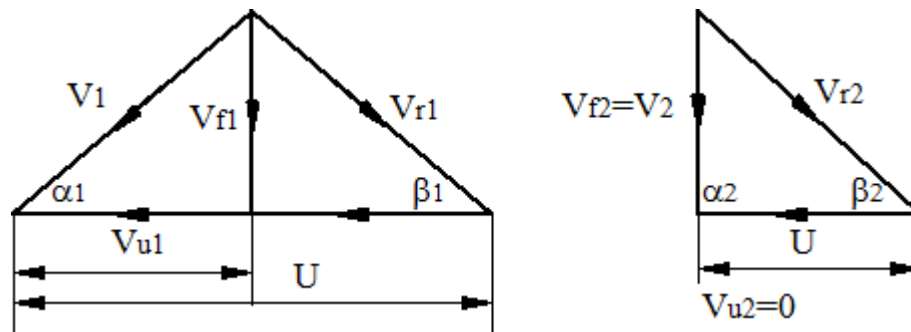

Fig. 5.6 Velocity triangles for Kaplan turbine
**Velocity triangles for Kaplan turbine:** At the outlet, the discharge is always axial with no whirl velocity component (i.e.,  $V_{u2}=0$ ). The inlet and outlet velocity triangles for Kaplan turbine are as shown in figure 5.6.